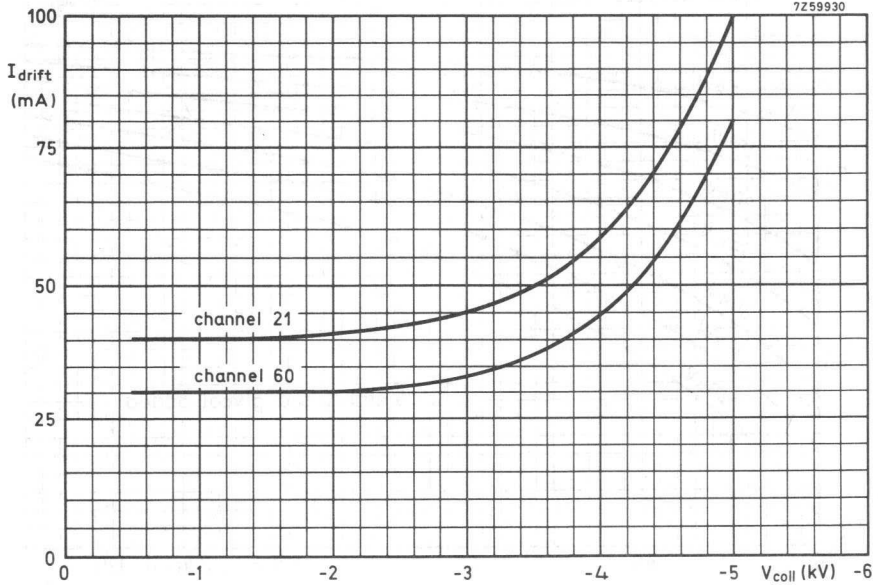

Fig. 11.
\* For limiting values of various operating conditions see next page and Fig. 11.
6. At black level, to be focused for minimum drift tube current. If necessary to obtain the required signal-transfer quality, a deviation of maximum 10% from this minimum current is permitted. The limiting value, see Fig. 11, must however, not be exceeded.